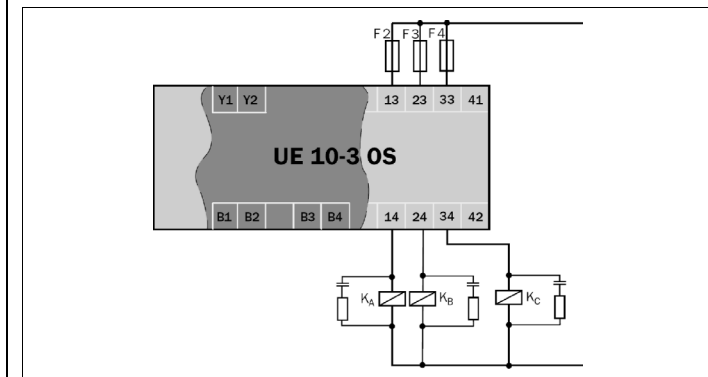

Fig. 2: Basic circuit UE10-30S
- To prevent the welding of the contacts on the built-in relay, an overcurrent protection device with max. 6 A short-circuit protection (duty class gG) is to be integrated into the current paths (see Fig. 2, enable current path fuse F2/F3/F4).